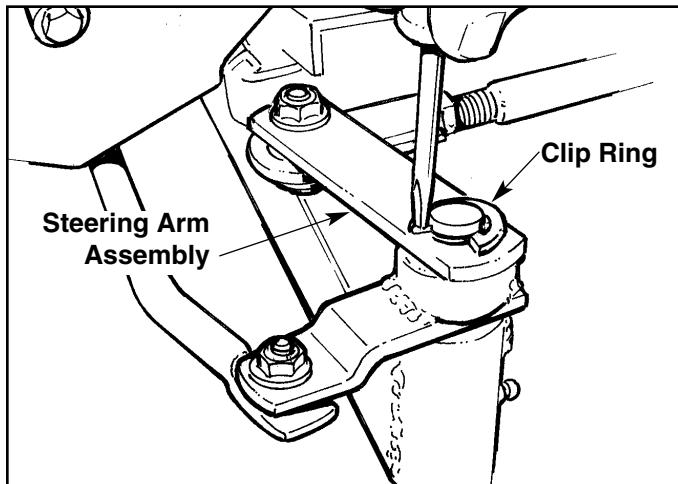

Figure A-7. Remove Clip Ring
2. Using a flat blade screwdriver, position the tip of the screwdriver blade at the open end of the steering arm clip ring, and twist the blade against the clip ring to force the ring partially out of the groove (Figure A-7).